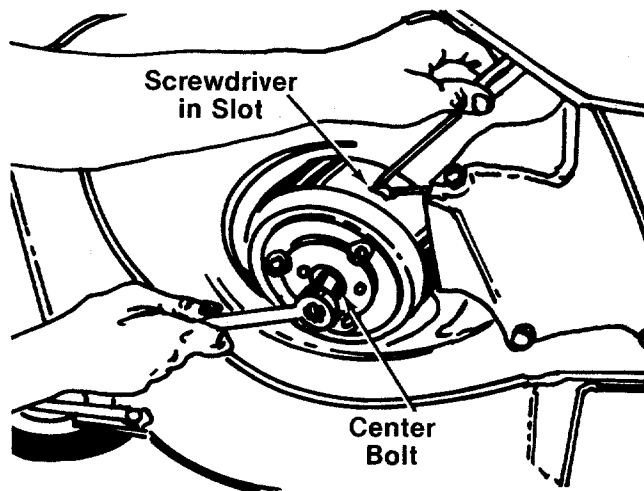

FIGURE 33.
- a. Insert a screwdriver into the slot provided in the blade brake/clutch housing where the control cable enters housing. See figure 33.